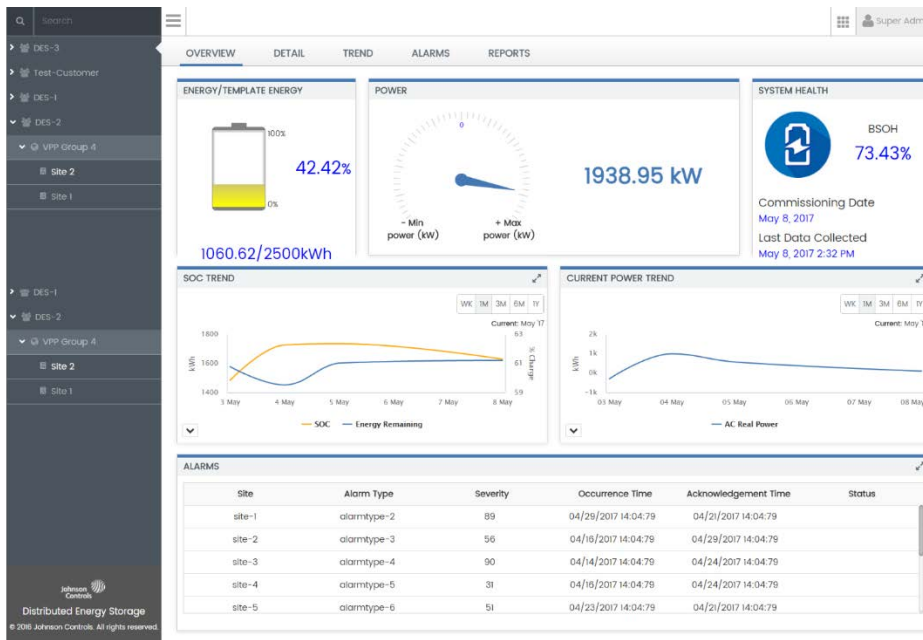

Figure 7: DES Overview
- **Secure Authentication Screen** – Provides Active Directory authentication and access to site and role specific information. Figure 7 shows the Secure Authentication Screen.